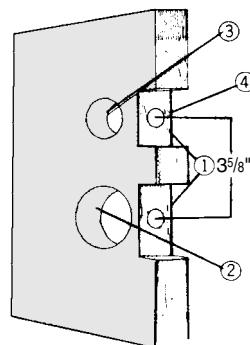

Figure 13.138 Two mortise cuts are required in the door edge in addition to the required holes. (M.A.G. Engineering and Mfg., Inc.)
2. See Fig. 13.138. Mortise out the front edge of the door (1) $2\frac{5}{8}$ inches high \times $\frac{1}{2}$ -inch deep in the center of the lock hole (2).
3. Using the template furnished with the deadbolt lockset, mark and drill holes (3) and (4) $3\frac{3}{8}$ inches from the center of the bottom hole.